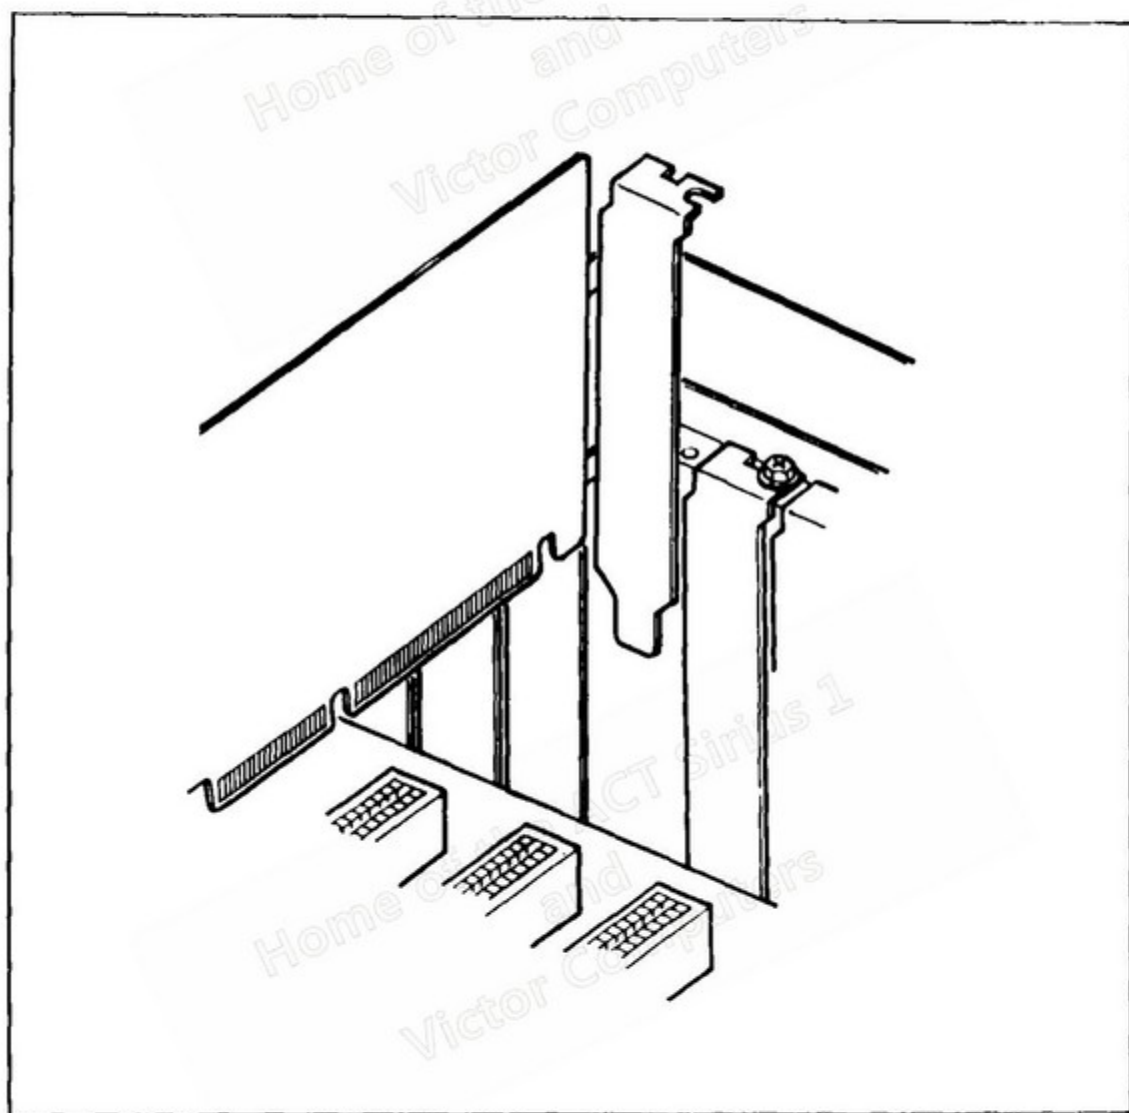

Figure A-6: Inserting an Option Card
2. Insert the option card in the expansion slot as shown in Figure A-6. On the back of the system unit's front panel is a row of option card support brackets. Insert the option card so that the end with the mounting bracket faces the rear of the system unit and the other end is aligned with the support bracket. Press the option card straight down, gently inserting the tab(s) on the bottom of the card into the expansion slot. Use a gentle rocking motion if necessary.